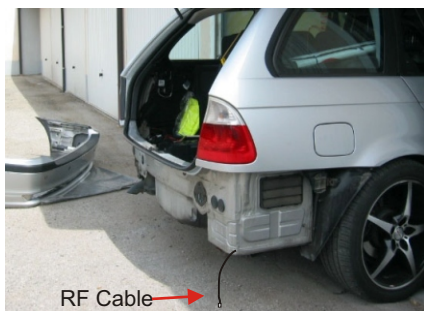

Fig. 2
b) Through the individuated passage route the RF cable inside the trunk leaving the fast-on terminal outside. (Fig. 2)